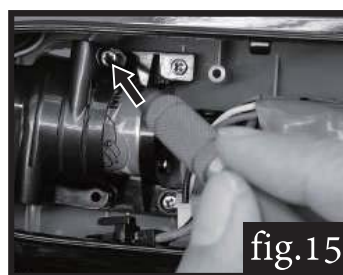

fig.15
15. Install the motor protection cover and fit it on seat with 2 screws, fig. 15.